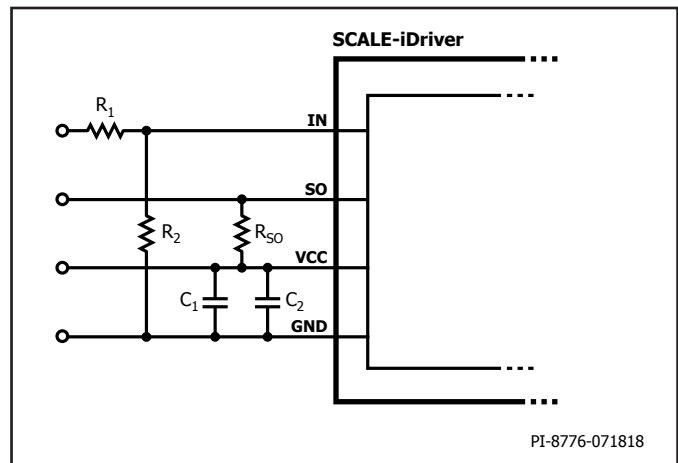
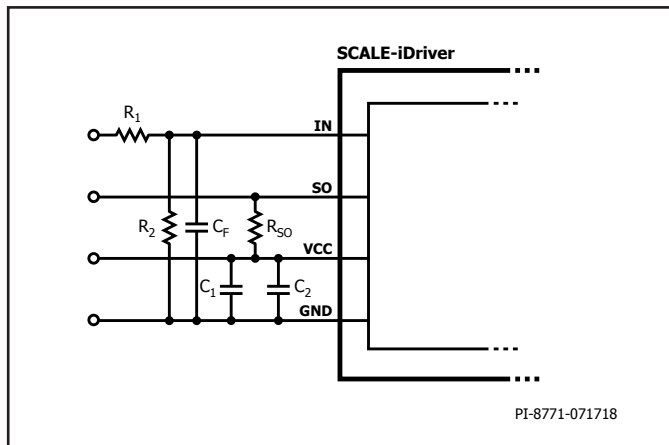

Figure 6. Recommended Circuitry for Increased IN Logic Levels.
Figure 7. Primary-Side of Example Circuitry.
If the physical distance between the controller and the SCALE-iDriver is large a line driver is recommended or increase the logic level to 15 V. For 15 V logic level, the resistive divider in Figure 6 is recommended. This solution adjusts the logic level as necessary and will also improve driver's noise immunity.
For the input the circuitry of Figure 6 is recommended, when using 15 V input logic.  $R_1$  and  $R_2$  represent a voltage divider to get a 5 V signal at the IN pin. If additional filtering is required a capacitor  $C_F$  can be placed in parallel to  $R_2$  as depicted in Figure 7. The time constant  $\tau$  can be calculated by Equation (1). In case direct 5 V logic is used at the IN pin,  $R_2$  is recommended at any case and  $R_1$  can be reduced to 100  $\Omega$ .